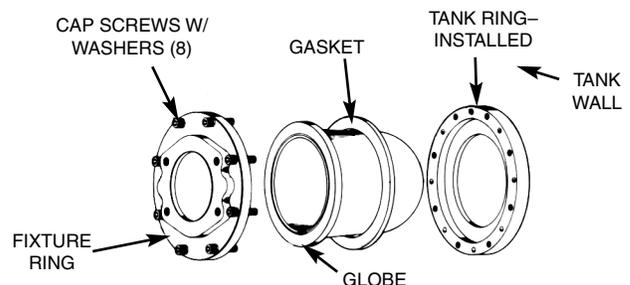

Figure 3.
3. Place gasket over globe and insert into tank. Place fixture ring over globe flange and secure with eight 1/4"-20 Allen Head cap screws. Sequentially tighten screws to 130 in. lbs. torque. See Figure 3.